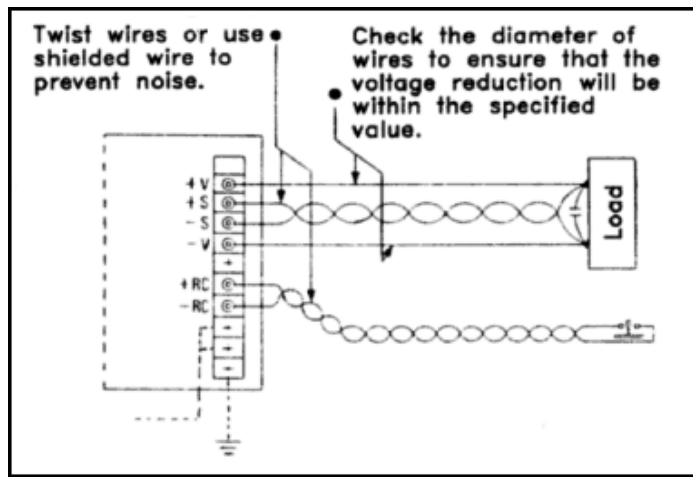

Fig. 12
Power Supplies equipped with a Remote Voltage Sense capability can detect a voltage drop at the load. This feature is especially useful when the power supply and the load are connected by a long line. Power supplies with the Remote Sense have +S and -S terminals (as shown in Fig. 12). When the +S and -S terminals are connected to the load side of the output, the power supply will be able to detect a voltage drop at the load. The power supply will raise the output until the correct voltage is provided at the load terminals. See the HRP(G) range for remote sensing for power supplies of 150W to 600W.